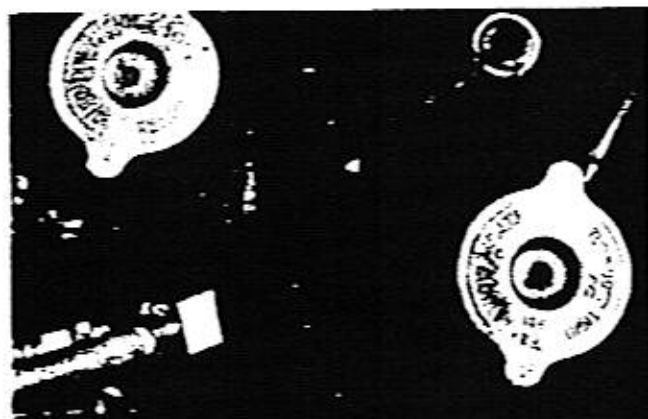

Figure 8-3
D.D.A. engine – Check coolant level by looking at sight gauge on the radiator expansion tank. The gauge should be completely full with a cold engine. If coolant is required, add only to the expansion tank through the fill opening at the top of the tank. See Figure 8-3.